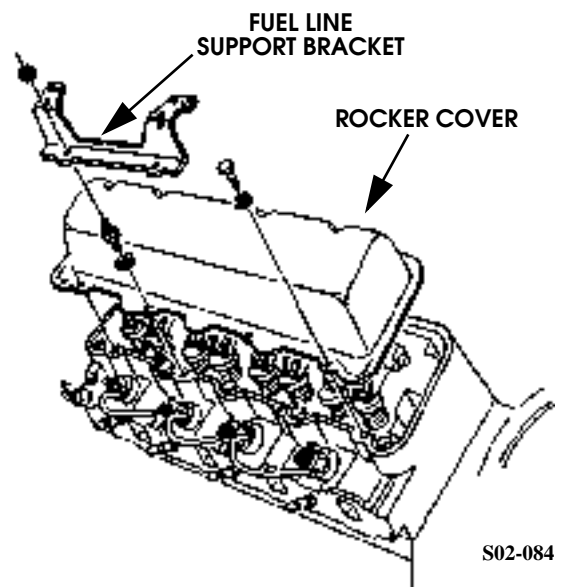

Figure 2-182: Rocker Cover Installation
3. Align and install covers on cylinder heads (Figure 2-182).